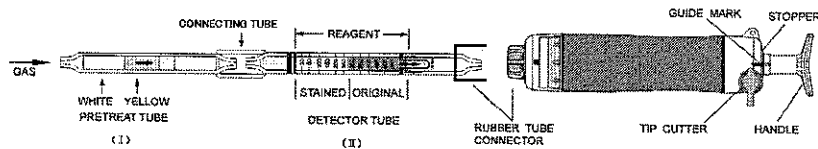

Fig.1
- ① Break both ends of the pretreat tube (I) and detector tube (II), and connect each end of the pretreat tube (I) and detector tube (II) with connecting tube as shown in Fig. 1.
- ② Insert the detector tube (II) into the aspirating pump securely as shown in Fig.1. (Arrow mark shall point to the pump.)
- ③ Align the guide marks on the shaft and stopper of the aspirating pump.
- ④ Pull the pump handle at a full stroke until it locks and wait for 2 minutes or until the completion of sampling is confirmed with the flow indicator of the pump. (See descriptions about the flow indicator in the instruction manual of the pump.)
- ⑤ On completion of sampling, read the scale at the maximum point of the stained layer.
- ① Temperature: Correct the tube reading by following temperature correction table.